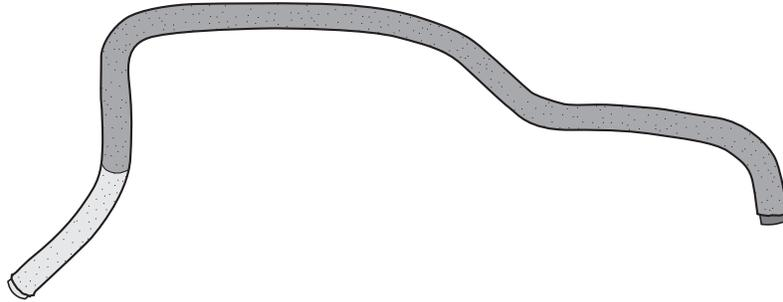

Figure 24: Remove highlighted portion
25. Modify brake booster as shown (fig 24) and install with fresh cut end to engine.